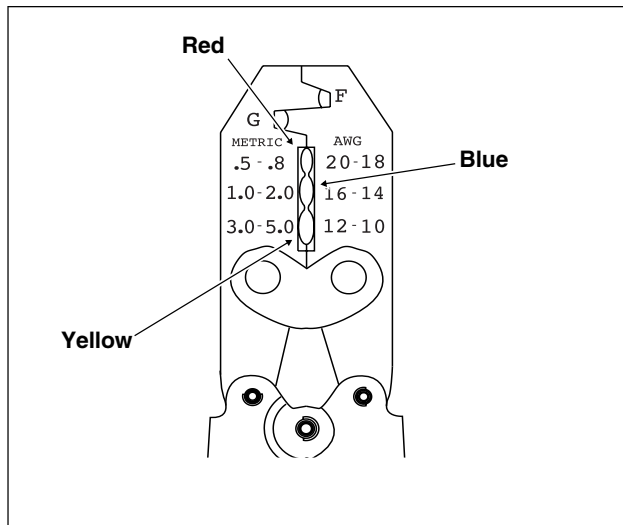

Figure 8-56. Packard Crimp Tool (HD-38125-8)
4. Determine the correct dye or nest for the crimping operation. Match the color or gauge wire marked on the butt splice connector with the corresponding crimp cavity on the crimp tool. See Figure 8-56.